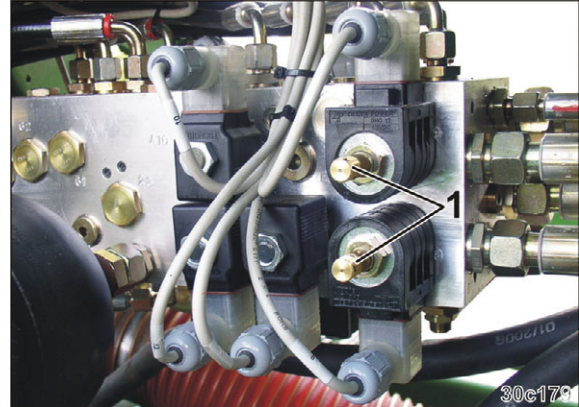

Fig. 200
2. Take the two valve pins (Fig. 200/1) out of the valves and turn them through 45 degrees to lock.
- Move the two valve pins (Fig. 200/1) to their normal position.